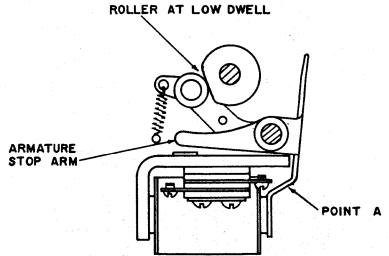

Figure 2
2. Adjust the control armature to lie flat against the magnet core with the roller at the low dwell of the armature knock off cam. Form at point (A) (Figure 2).